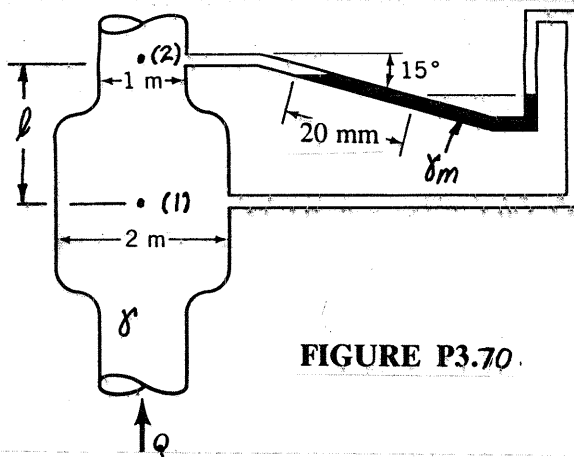

FIGURE P3.70.
3.70 Air at standard conditions flows through the cylindrical drying stack shown in Fig. P3.70. If viscous effects are negligible and the inclined water-filled manometer reading is 20 mm as indicated, determine the flowrate.